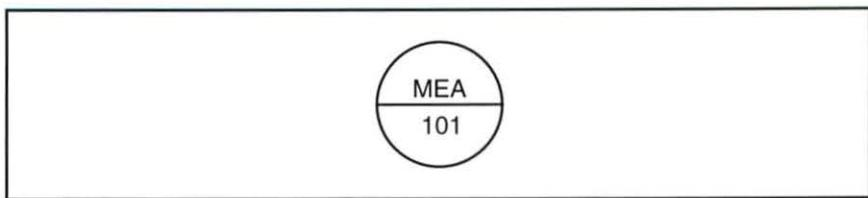

Figure 52. Instrument Tag
10. Determine the measured variable indicated in the instrument tag in figure 52.